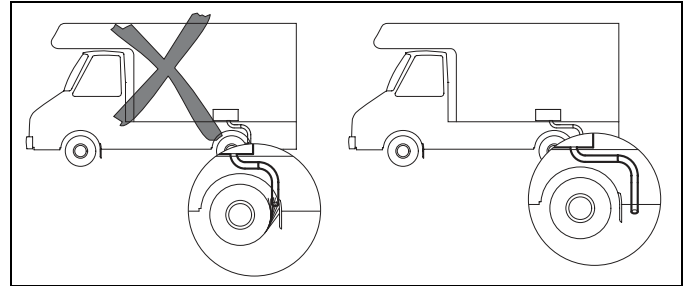

Fig. 33: Avoid the line becoming clogged with dirt
- The line must be located so that it cannot become clogged with dirt or snow. See Fig. 33.